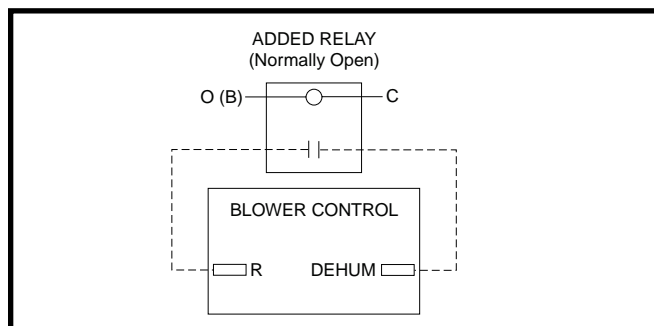

Figure 26. DEHUM Wiring Configuration without Humidistat
- If a humidistat is not available, it is an acceptable option to connect the **R & DEHUM** via a field supplied normally open relay. See Figure 26 (page 27). The **R & DEHUM** terminals should be connected across the normally open relay terminals. The O (B) & C terminals should then be connected across the relay coil. This option causes the blower to run at a reduced CFM for 10 minutes after a call for cooling.